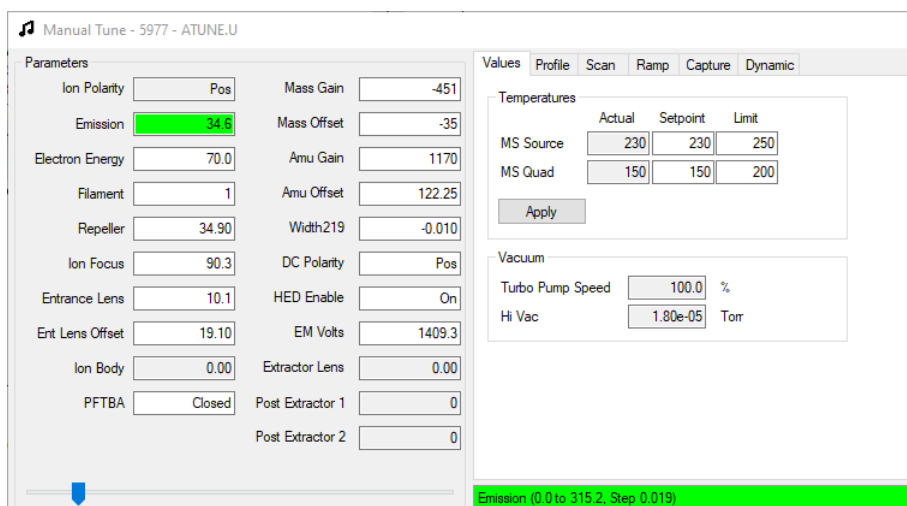

Figure 12. MassHunter Manual Tune dialog
**Figure 12** shows some of the parameters that can be interactively set during a manual tune.